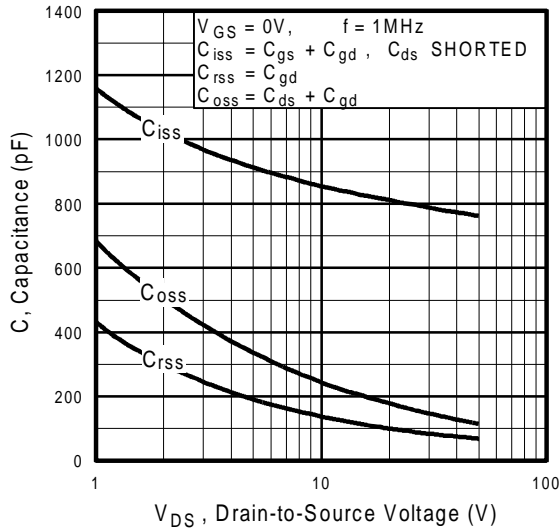

Fig 5. Typical Capacitance Vs. Drain-to-Source Voltage
| C_{rss} | Reverse Transfer Capacitance | — | 90 | — | | $f = 1.0\text{MHz}$, See Fig. 5 ⑤ |